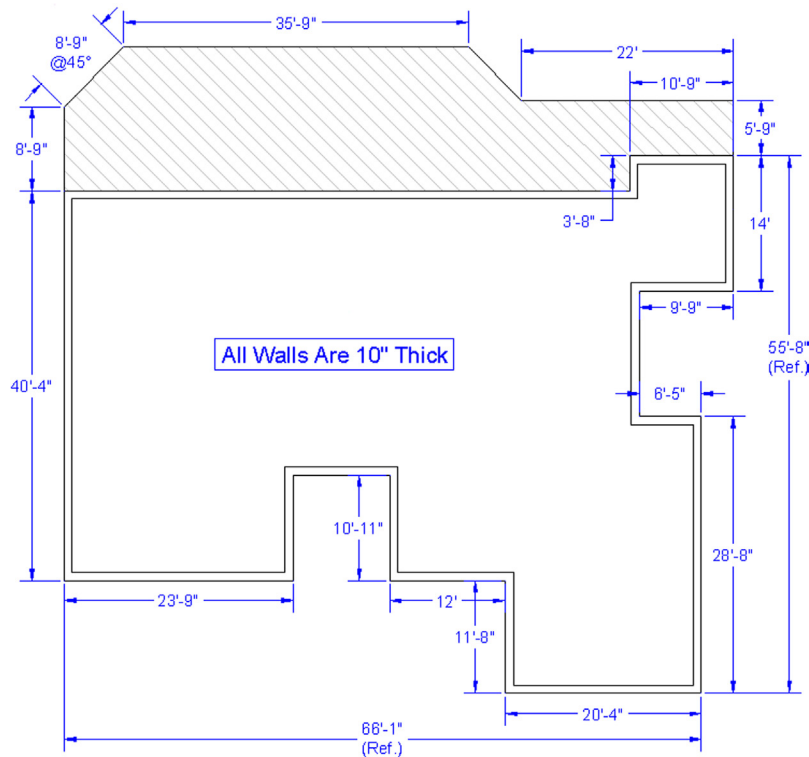

FIGURE 11.33
Step 3. Draw the floor plan shown in Figure 11.33. The dimensions are not just for your reference anymore; you also need to draw them in. They serve as checks on your design. Use the proper layers and consistent colors. When done and you are sure everything is correct, freeze the dimensions. It should take you about 30 minutes to set up and complete this design.